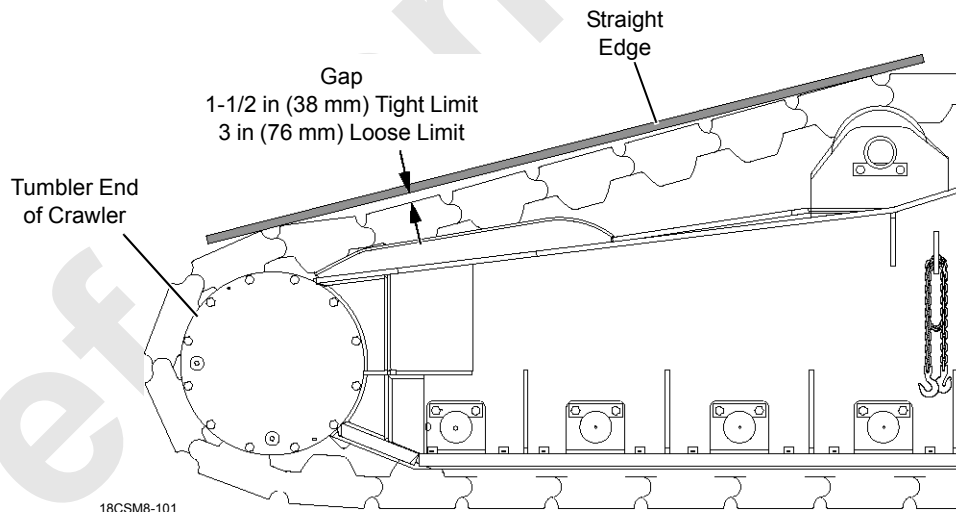

FIGURE 8-2
1. Travel forward or reverse on a firm level surface so all tread slack is in top of treads at tumbler end of crawlers as shown in Figure 8-2.
2. Place straight edge on tread as shown in Figure 8-2. Gap between straight edge and top of tread at lowest point should be 1-1/2 in (38 mm) (tight limit) to 3 in (76 mm) (loose limit).